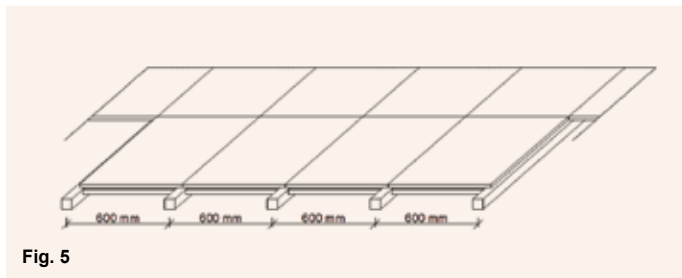

Fig. 5
**VMG Lignum Board | Floor T&G2** should always be parallel to main beams (Fig. 5). All short panel edges must be supported. **VMG Lignum Board | Floor T&G2** recommended to be span at least two beam gaps, and connection must always be formed on the centre-line of a beam.